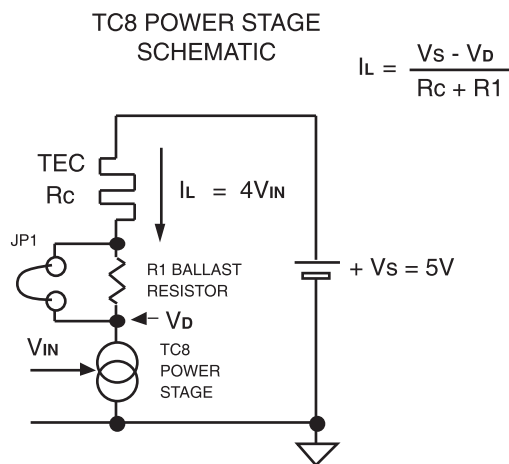

FIGURE 3
A one ohm power resistor (R1) that is in series with the TEC and the power driver, is incorporated on the TC8 P.C. board (Figure 3). This resistor should be used if a TEC with a very low resistance is used, otherwise it is possible to operate the power stage of the TC8 at power level in excess of the 6 Watt maximum rating. A jumper across connector JP1 will short R1 out if it is not needed. Note that the current flowing through the TEC, the 1 $\Omega$  resistor (if used) and the TC8 power stage is the same and that the power supply voltage (VS) is divided between these three elements. A load line technique can be used to determine the voltage drop across each of these elements. This will show if the power dissipated in the TC8 current source can exceed the six watt limit which in turn will determine if the 1 $\Omega$  resistor is needed. This is accomplished by superimposing a load line for the TEC on the Current-Voltage characteristic of the TC8 power stage illustrated in Figure 4.
From the TEC specifications determine the maximum voltage and current limits and calculate the equivalent resistance. For example: Suppose the TEC is rated at 2 Amperes maximum at a maximum operating voltage of 0.48 Volts. This is equivalent to a resistance of 0.24 $\Omega$ . To obtain the load line draw a line, with a slope of 1 divided by the resistance, through 5 Volts on the (X) axis in Figure 5. This line defines the locus of operating point for the circuit in Figure 3 and is illustrated in Figure 5.
It can be seen from Figure 5 that the power dissipation in the TC8 current sink can be exceeded for TEC drive currents in excess of 1.3 Amperes. The problem can be rectified by placing the 1Ω resistor in series with the TEC (remove the jumper). Now the resistance in series with the current sink is 1.24Ω and the load line passes through 5 Volts on the (X) axis and has a slope of 1 divided by 1.24Ω. This line defines the new locus of operating point for the circuit in Figure 3 and is illustrated in Figure 6.